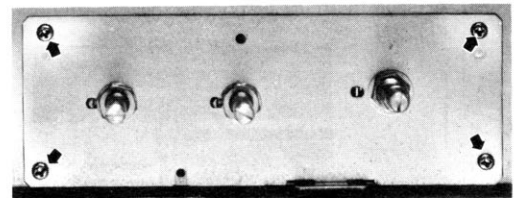

Fig. 23
- 1) Remove 4 screws and pull the circuit board toward you remove. (Refer to Fig. 23)